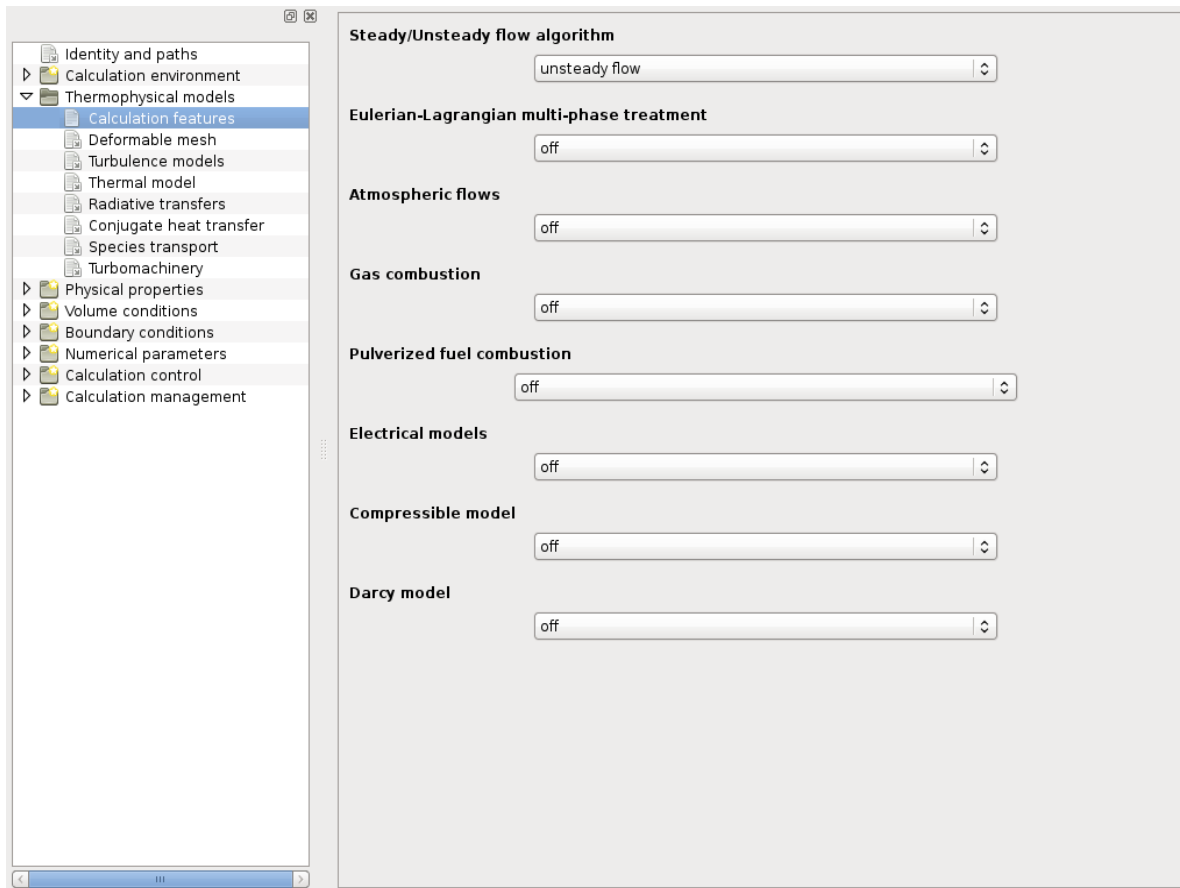
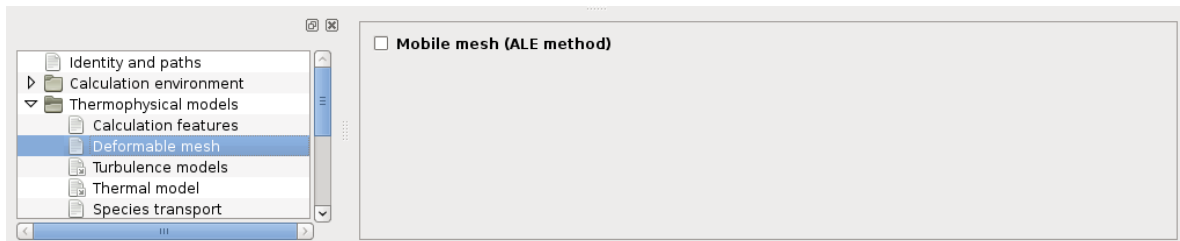

Figure 10: Calculation features options
Figure 11: Mobile mesh option
This operation is done in the Graphical User Interface (GUI) or by using the user subroutines in `cs_user_parameters.f90`. In the GUI, the initialisation is performed by filling the parameters displayed in Figure 10 to 27. If the option 'Mobile mesh' is activated in Figure 11, please see Section 8.11.4 for more details. The headings filled for the initialisation of the main parameters are the followings:
- Thermophysical model options: Steady or unsteady algorithm, specific physics, ALE mobile mesh, turbulence model, thermal model and species transport (definition of the scalars and their variances), see Figure 10 to Figure 14. If a thermal scalar, temperature or enthalpy, is selected, two other headings on conjugate heat transfer and radiative transfers can be filled in (see Figure 13).